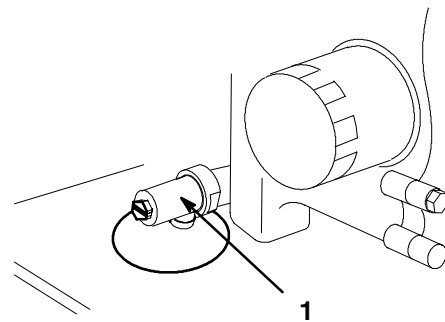

Figure 43
3. Place a pan below the oil drain. Use either a flat screw driver, 3/8 in. wrench or 10 mm wrench to open valve (Fig. 43).
4. Rotate valve end clockwise to close valve. Rotate valve end counterclockwise to open valve (Fig. 43).
5. When oil has drained completely, close the drain valve (Fig. 43).